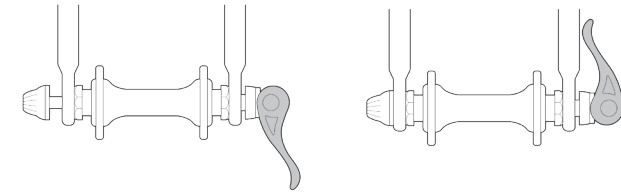
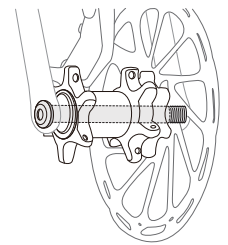

Figure 5
Figure 8
There are a few different methods to secure wheels to the frame. The traditional way which still applied on rim brake bikes (see Figure 5), Quick release skewer (QR). Can be found on commuter or lifestyle bikes (see Figure 6), Skewer and Axle nut (see Figure 7). The modern way on most disc-brake bikes (see Figure 8), Thru-axle.